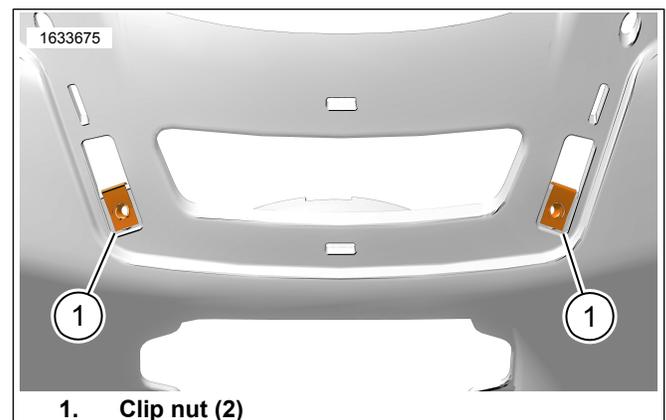

Figure 4. Outer Fairing Clip Nuts
See Figure 4. Remove and discard two outer fairing clip nuts (1).